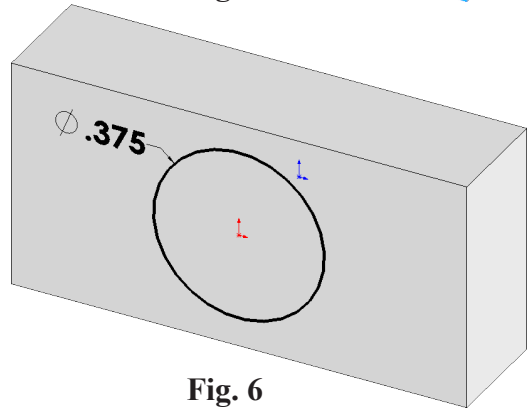

Fig. 6
Step 2. Click **Circle**  (S) on the Sketch toolbar.
Step 3. Sketch a **circle** at Origin , **Fig. 6**.
Step 4. Click **Smart Dimension**  (S) on the Sketch toolbar.
Step 5. Dimension diameter **.375**, **Fig. 6**.